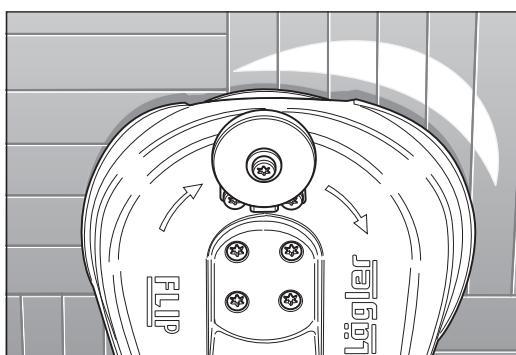
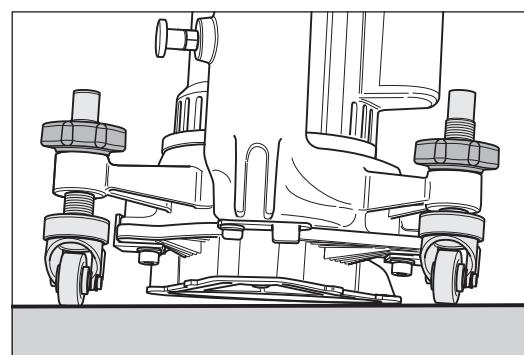
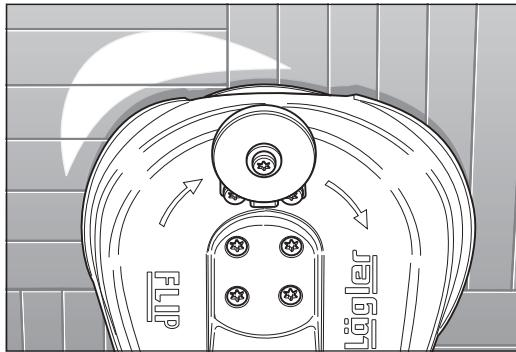
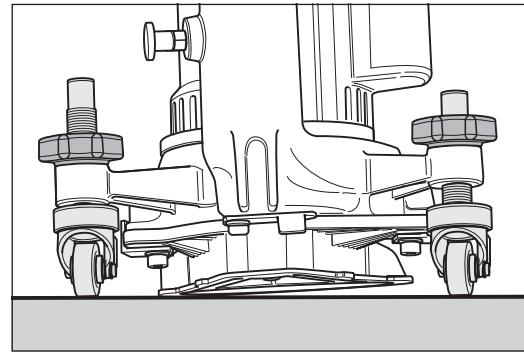

Fig. 60 Improper adjustment of the guide rollers:
Fig. 61 The sanding zone of the machine is too much to
Fig. 62 Improper adjustment of the guide rollers:
Fig. 63 The sanding zone of the machine is too much to
- 9 If the machine sands too much to the right (fig. 60) or to the left (fig. 62), the guide rollers are **not adjusted to the same height** (fig. 61 and fig. 63)!